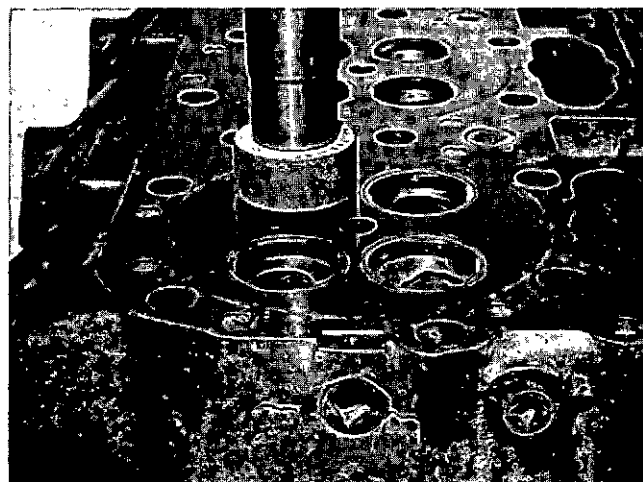

Fig. 2-3-3, V40210. Grind valve seat
4. Grind valve seats, holding seating motor as nearly vertical as possible. Fig. 2-3-3. A severe angle will cause seat to be out-of-true depending upon amount of wear in grinder bearings, mandrel, bushings, etc., even though grinder has a universal joint.